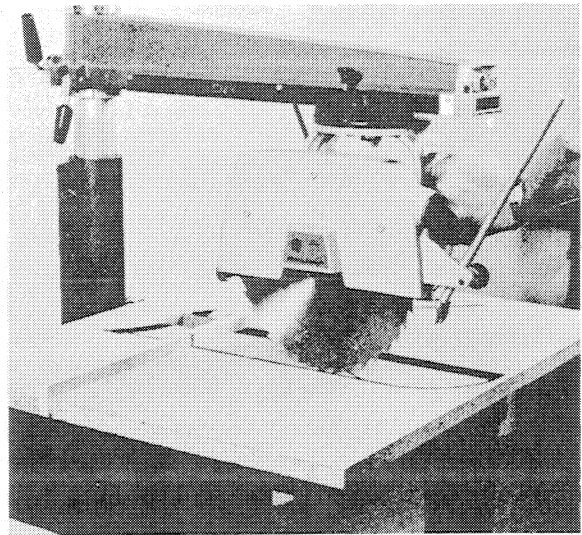

FIGURE 1
- (d) Lower the arm (saw still running) 1/4 turn. Pull the saw forward to the end of the arm with your *left hand*. This will cut a groove in the table top 1/32" deep. Tighten Rip Lock. (Refer to figure 1)
- (g) Return saw to position shown in figure 1. Lock Rip Lock and start motor. Release yoke clamp handle and locator pin and rotate yoke counterclockwise to the outtrip position. This cuts the swing line for outtripping. Loosen rip lock.
- (i) Return saw to position shown in figure 1 and move to the rear position behind the fence.